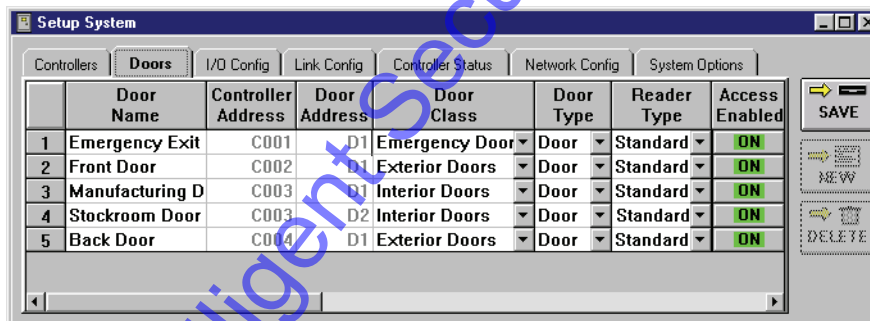

Figure 3-21: Assigning Door Classes
5. The resulting window should look similar to Figure 3-21.
1. To assign a door type, click on the Setup ⇒ System pull-down menu or click on the  tool bar button. Then click on the **Doors** tab (see Figure 3-21 on page 28 of this section).
1. To assign a reader type, click on the Setup ⇒ System pull-down menu or click on the  tool bar button. Then click on the **Doors** tab (see Figure 3-21 on page 28 of this section).
1. To disable/enable access through a door, click on the Setup ⇒ System pull-down menu or click on the  tool bar button. Then click on the **Doors** tab (see Figure 3-21 on page 28 of this section).
5. Enabling access through a door is simply the opposite of disabling access through a door. Locate the door to have access enabled. Click on the  button corresponding to the selected controller/door. The  button will toggle to . The window should again appear similar to the window in Figure 3-21 on page 28 of this section.